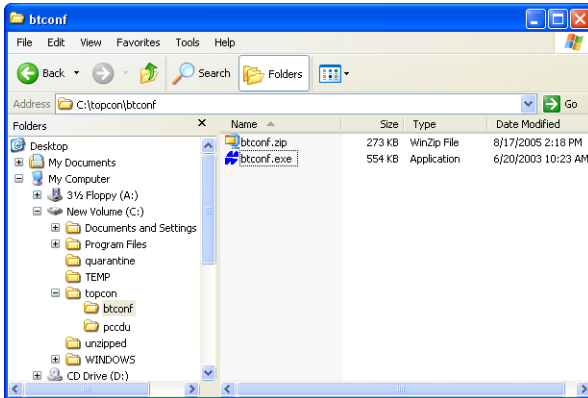

Figure 2-4. Extract Program and Create Shortcut
4. Create a shortcut on the computer's desktop for quick access to BTCONF (Figure 2-4).